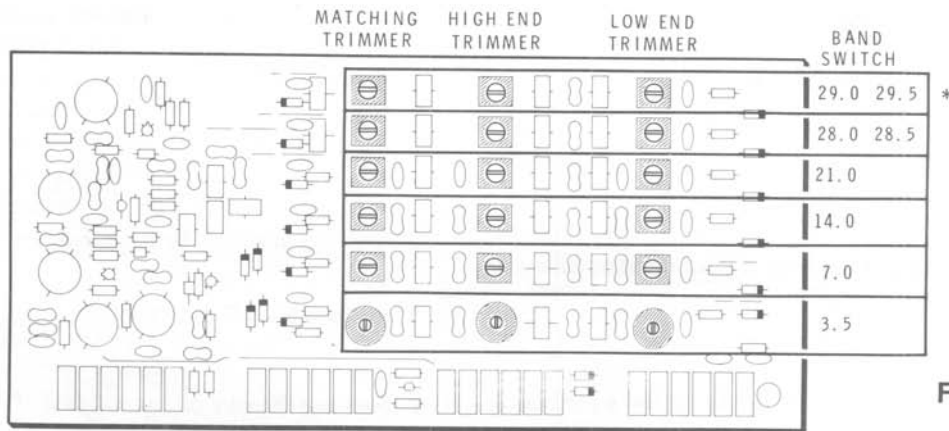

Figure 1-8
Figure 1-8 identifies the trimmer capacitors to be adjusted for each BAND switch position.
- () Adjust all trimmer capacitors on circuit board G so their slots are positioned as shown in Figure 1-8.
- () Refer to Figure 1-8 and adjust the three trimmers for the 29.0 band to obtain the greatest deflection of the S-meter needle. Repeat the adjustment two or three times until no greater deflection can be seen. Use the insulated screwdriver for these adjustments.
- () Refer to Figure 1-8 and adjust the three trimmers for the 28.0 band to obtain the greatest deflection of the S-meter needle. Repeat the adjustment two or three times until no greater deflection can be seen. Use the insulated screwdriver for these adjustments.
- () Follow the same procedure and adjust the bandpass filters for the 14.0, 7.0 and 3.5 bands. The trimmers for each band are shown in Figure 1-8. Refer to Figure 1-9 for the three frequencies to use for the adjustment of each filter.